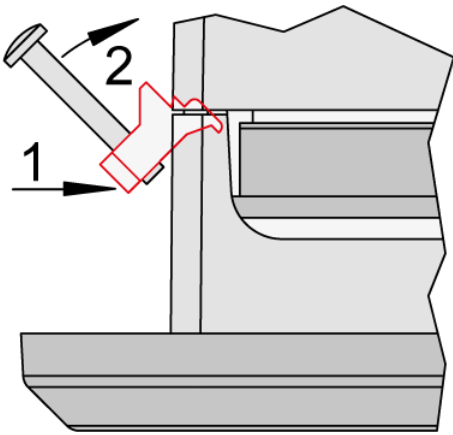

Fig. 21: Attach clamp inserts
5. → Re-install the clamp inserts by tilting the insert to a 45° angle. (Fig. 21/1) Insert the nose of the insert into the slot on the side of the housing. (Fig. 21/2) Raise the clamp insert so that it is parallel to the control panel.